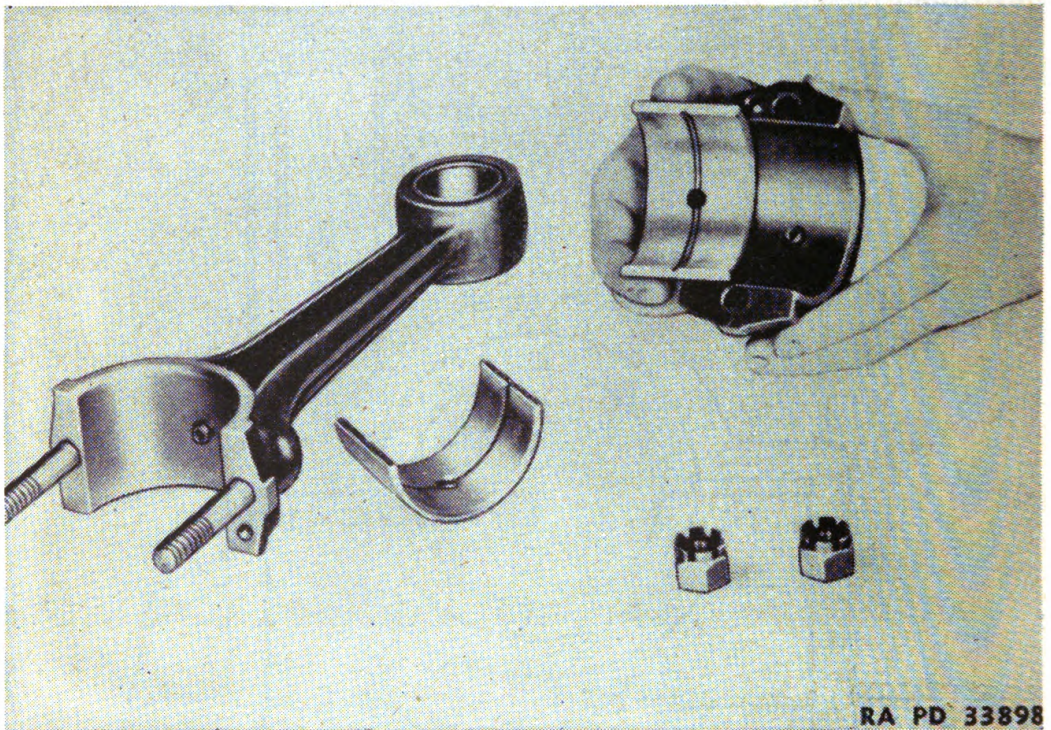

FIGURE 36.—Connecting rod bearing replacement.
(5) There is a packing groove on each side of the rear oil seal cap. Using a small diameter punch or awl the groove should be solidly packed. Normally, $\frac{1}{2}$ ounce of $\frac{1}{8}$ inch round braided packing (not graphited) will suffice for an engine. Packing is supplied with bearing replacement groups.
30. Connecting rod bearing replacement.—a. General.—The connecting rod bearing shells (fig. 36) are of the precision type and are available in standard size or .050 inch undersize. Precision bearings, standard or undersize, are to be installed without fitting, reaming,